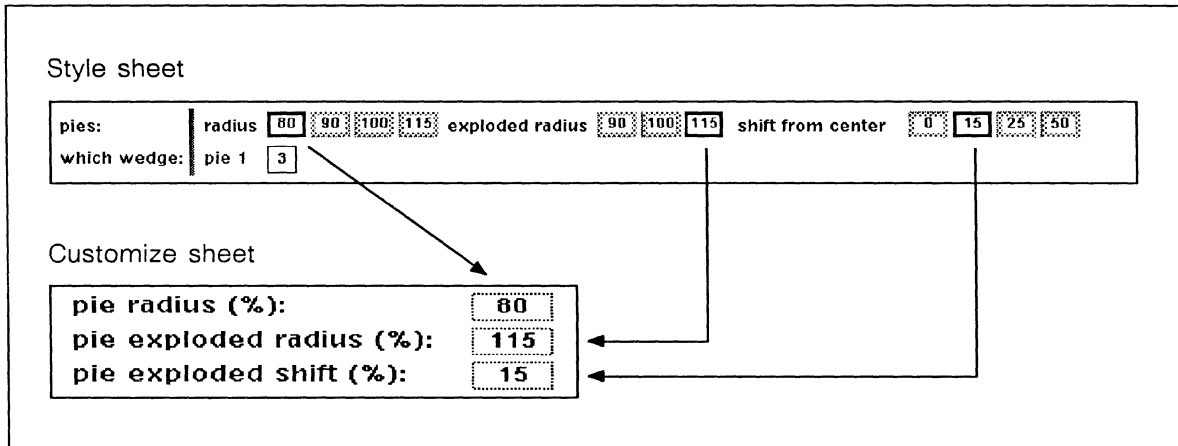

Figure 29-26. Properties of pie charts
**Pie radius.** On the Style sheet for a pie chart you find options enabling you to control the size of the radius of the whole pie (Figure 29-26). You can select one of the following pie radius values: 80, 90, 100, and 115 (%). To produce a pie chart with a different radius, modify the value of *pie radius* on the Customize sheet. You can enter numbers from 0 through 9999, although a pie chart with a radius beyond 200% usually is not meaningful. Negative numbers and 0 are the equivalent of 100.